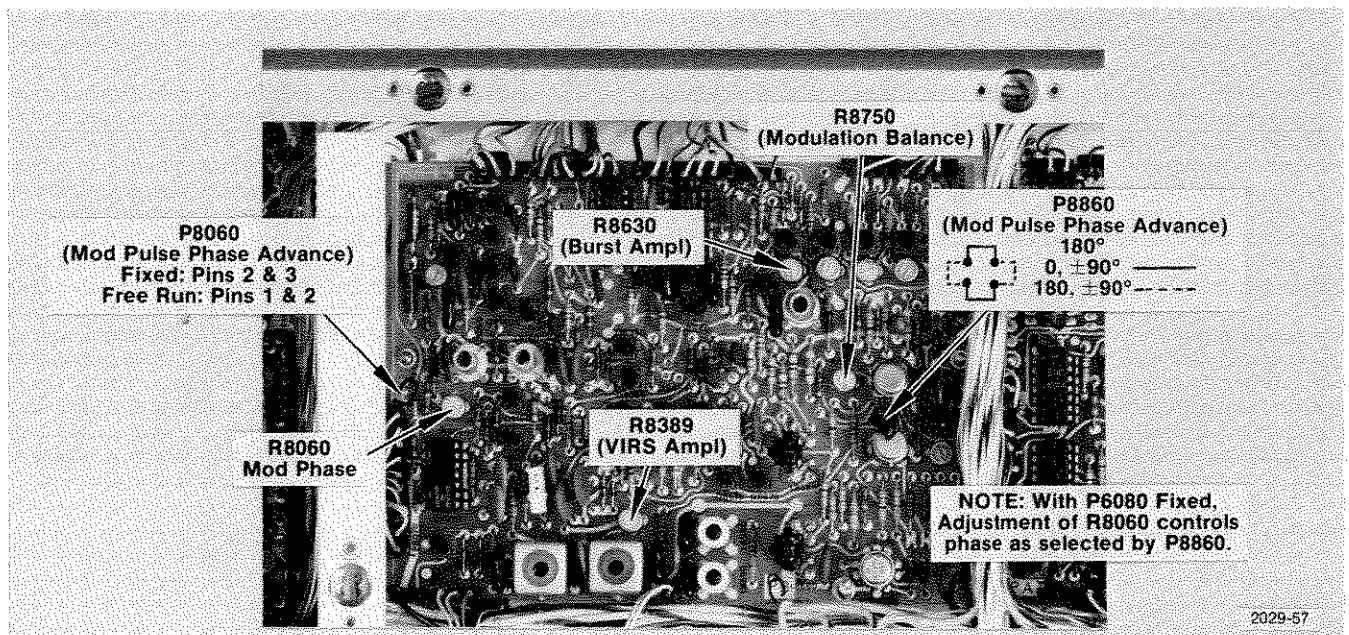

Fig. 1-23. 147A chrominance adjustments.
2. Adjust R7661 (Modulation Gain) and R7357 (Luminance Gain) for (1) a peak modulation amplitude of 714 mV, and (2) the best flat bottom on the modulated pulse. See Fig. 1-23 for the location of all adjustments in this procedure.
By changing the connector on pins 1 and 2 of P8060, see Fig. 1-23, to pins 2 and 3, the phase of the Full Field Modulated Sine-Squared Pulse will be fixed. This is shown in Fig. 1-26B.
Advance 180°. As discussed above, it is possible to obtain Phase Advance of the Modulated Sine-Squared Pulse during VITS. If needed, the phase can be changed 180° from that obtained with adjustment of R8060 by rotating the connector on P8860 (see Fig. 1-23) by 90°. This provides a 360° control range of the VITS phase.
2. Adjust R8750 (Modulation Balance), see Fig. 1-23, for minimum modulation on the blanking level.